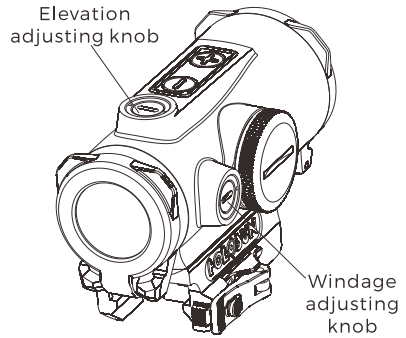

Fig 6
2. The built in screw driver tool on the protective cap can be used for zeroing adjustment (see Fig6). See label inside cap.
1. On top of sight is the elevation adjusting turret, windage adjusting turret is on the right side (see Fig6). The sight has been factory adjusted for approximate zero.